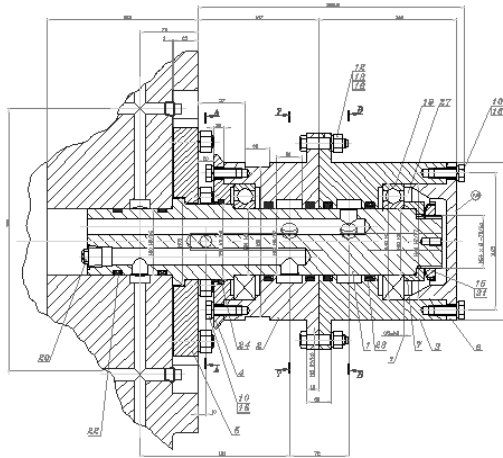

**Figure 26-4:** This drawing needs updated layers and a title block.
2. Save the file as `ab26-01.dwg` in your AutoCAD Bible folder. This drawing needs an updated set of layers and a title block. It is shown in Figure 26-4.